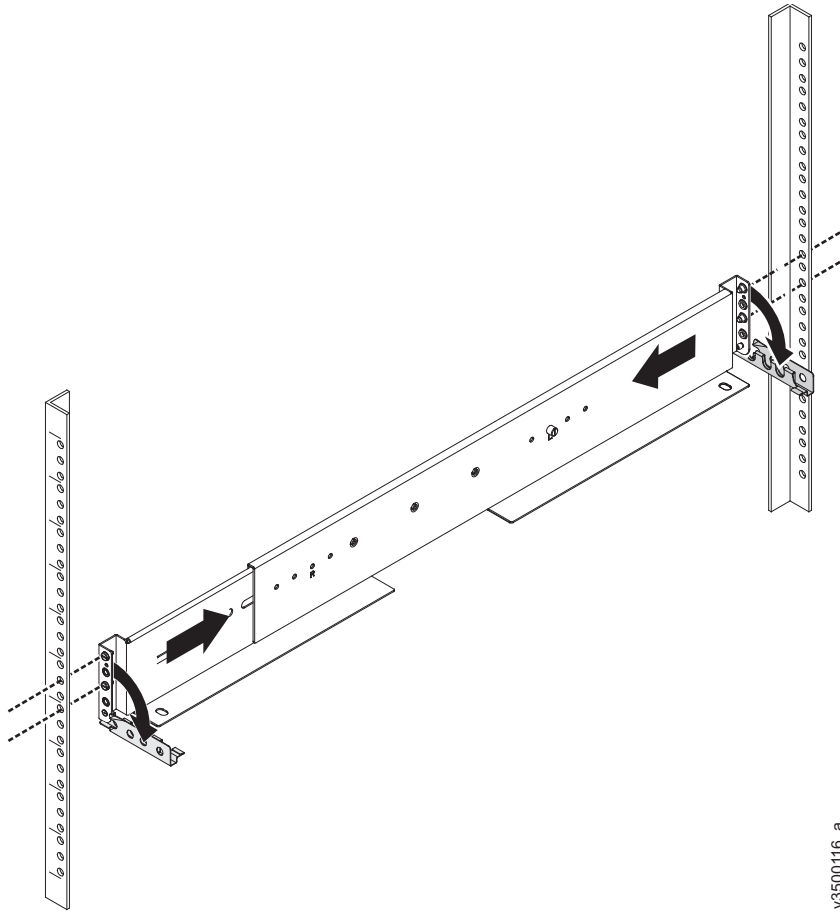

Figure 78. Compressing rail for removal from rack
11. Compress the rail against its spring to shorten it, then remove it from inside the rack (Figure 78 on page 248).